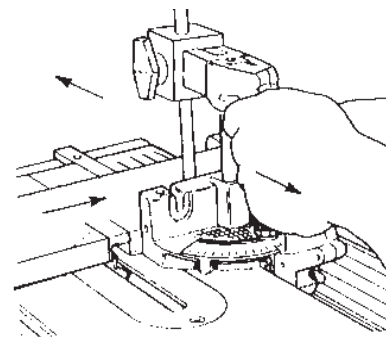

Figure C-17
5. Line up the right side of the dado with the right kerf mark and make your first pass. Turn off your machine. Move the stock to the right the width of one kerf, turn on your saw and make another pass. Turn off your machine. Continue until the left side of the dado lines up with the left kerf mark, then turn on your saw and make your last pass over the blade. See Figure C-17.